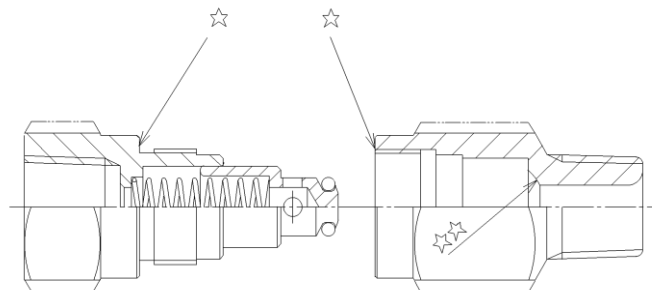

Fig. 4
3. After removing any foreign particles from the inside, use a cloth to wipe off the parts marked with ☆ and ☆☆ in Fig. 4 clean. Additionally, ensure that the O-ring (#4) on the poppet is free from scratches or damage.